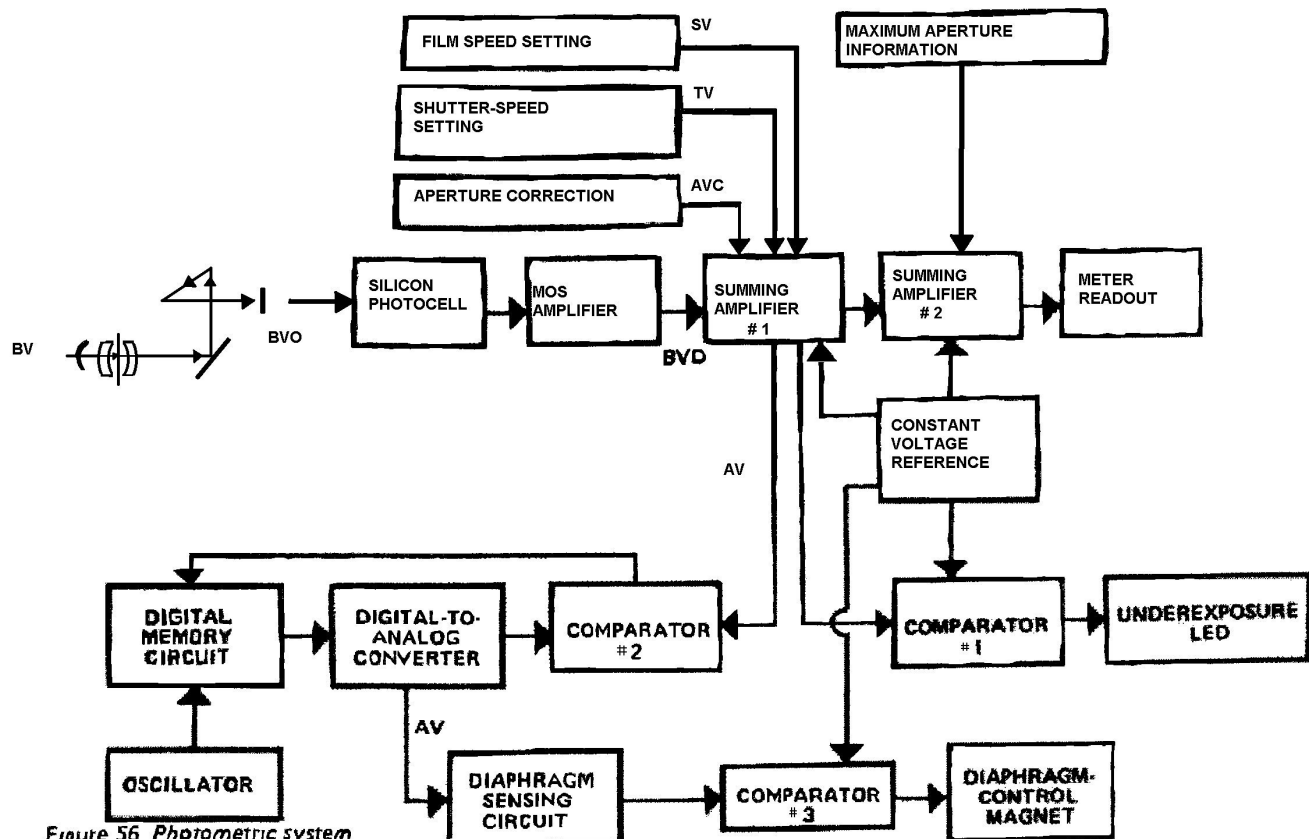

Figure 56 Photometric system
Probably the most unique part of the AE-1 involves the photometric system—the system that reads the light, provides the meter indication, and controls the diaphragm closure. Since Canon uses the Apex system in its service materials, we’ve put the Apex symbols in Fig. 56.
The brighter the light (the higher the BVO), the more voltage the silicon photocell puts out. The MOSFET then amplifies the voltage across the photocell. This amplified version of BVO goes to summing amplifier No. 1 in Fig. 56.
considered. But for the meter readout, the system must add one more factor—the maximum-aperture information AVO. A second variable resistor on the mirror cage, also controlled by the maximum-aperture correction pin, provides the maximum-aperture information. Summing amplifier No. 2, Fig. 56, then adds the maximum-aperture information to the AV information from summing amplifier No. 1. And it provides an output which drives the galvanometer needle to the proper f/stop reading.
So far, all we’ve done is get a meter readout. However, the same AV information at the output of summing amplifier No. 1 also controls the diaphragm-closing system. Notice that the two lower outputs from summing amplifier No. 1, Fig. 56, go to comparators.
Comparator No. 1 in Fig. 56 controls the underexposure LED in the finder. First, it compares the AV signal from summing amplifier No. 1 to the constant voltage reference Vc. If AV is below 1.2 volts, the comparator switches into positive saturation. And the underexposure LED flashes on and off, telling you that you’re outside the metering limits.
2. And comparator No. 2 controls the memory circuit. When you depress the release button to close SW2, the oscillator shown in Fig. 56 starts feeding pulses to the digital memory circuit.
A digital-to-analog converter constantly monitors this count. And it turns the digital count into an analog voltage. As the count increases, the voltage output of the digital-to-analog converter decreases. This voltage then provides the second input to comparator No. 2 in Fig. 56—the other input, you'll recall, is the AV signal from summing amplifier No. 1.
Consider that the diaphragm is now closing. That means the diaphragm-control electromagnet Mg1 remains energized. As the diaphragm closes, it lowers the resistance in the diaphragm-sensing circuit, Fig. 56.
So the diaphragm-sensing circuit modifies the AV output of the digital-to-analog converter. And it supplies this changing output to comparator No. 3, Fig. 56. When the diaphragm-sensing circuit drops the AV input below the VC reference signal, comparator No. 3 switches into positive saturation. That shuts off the current flowing through the diaphragm-control electromagnet Mg1.
In a moment, we'll go through the same operations using the actual circuit. You'll then be able to see the test points and troubleshooting procedures. But you'll notice in Fig. 56 that you have a natural dividing point for troubleshooting—the output of summing amplifier No. 1.
Or, suppose that the diaphragm fails to stop down properly. It always remains at the largest aperture or it always stops down to the smallest aperture, regardless of the light conditions. Yet the meter reads correctly. Again, you know that the output of the first summing amplifier must be correct. Why? Because the meter reads properly. So the problem must be in the lower part of Fig. 56—most likely, the diaphragm-sensing resistor.
Amplifier AR1 inside PX3, Fig. 59, corresponds to summing amplifier No. 1 in the block diagram, Fig. 56. AR1 adds the shutter-speed information, the lens information, and the film-speed information to BVO.